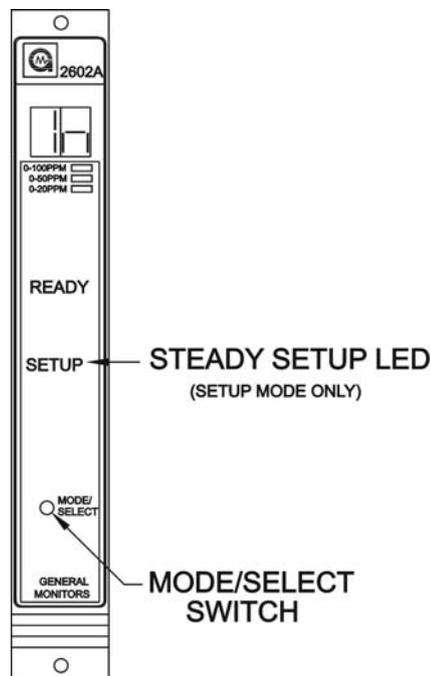

Figure 24 – Entering the Inhibit Mode
- If the password option is disabled, or after the correct password has been entered, the display will indicate **In** for five seconds (Figure 24). Pressing the **Mode/Select** switch while **In** is displayed, will cause the unit to enter the **Inhibit** mode by inhibiting the alarm outputs. After the Model 2602A has entered the Inhibit mode, pressing the Mode/Select switch causes the unit to return to normal operation (see section 5.3). If it is desired to enter the **Setup** Mode, do not press the **Mode/Select** switch for the five seconds that **In** is displayed.